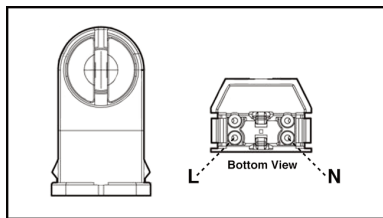

Fig.1 - Non-shunted G5 Lamp Holder For T5
- 6) Ensure that the fixture contains non-shunted G5 bi-pin lampholders(Fig. 1). If socket lampholder are internally shunted, then replace with new non-shunted socket lampholders. If socket lampholders are shunted with a jumper wire, remove wire to convert into non-shunted sockets.